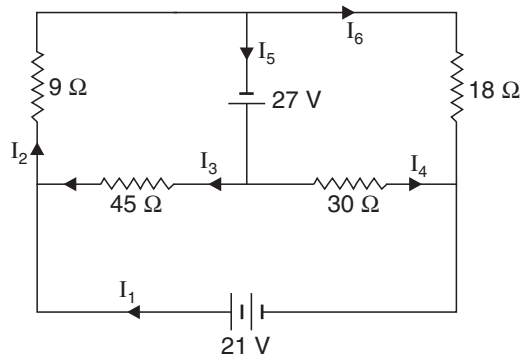

Fig. 68
30. Find the currents in the branches of network of Fig. 68 using nodal voltage method. [Ans. $I_1 = 1.42 \text{ A}$, $I_2 = 1.68 \text{ A}$, $I_3 = 0.26 \text{ A}$, $I_4 = 1.1 \text{ A}$, $I_5 = 1.36 \text{ A}$, $I_6 = 0.32 \text{ A}$]